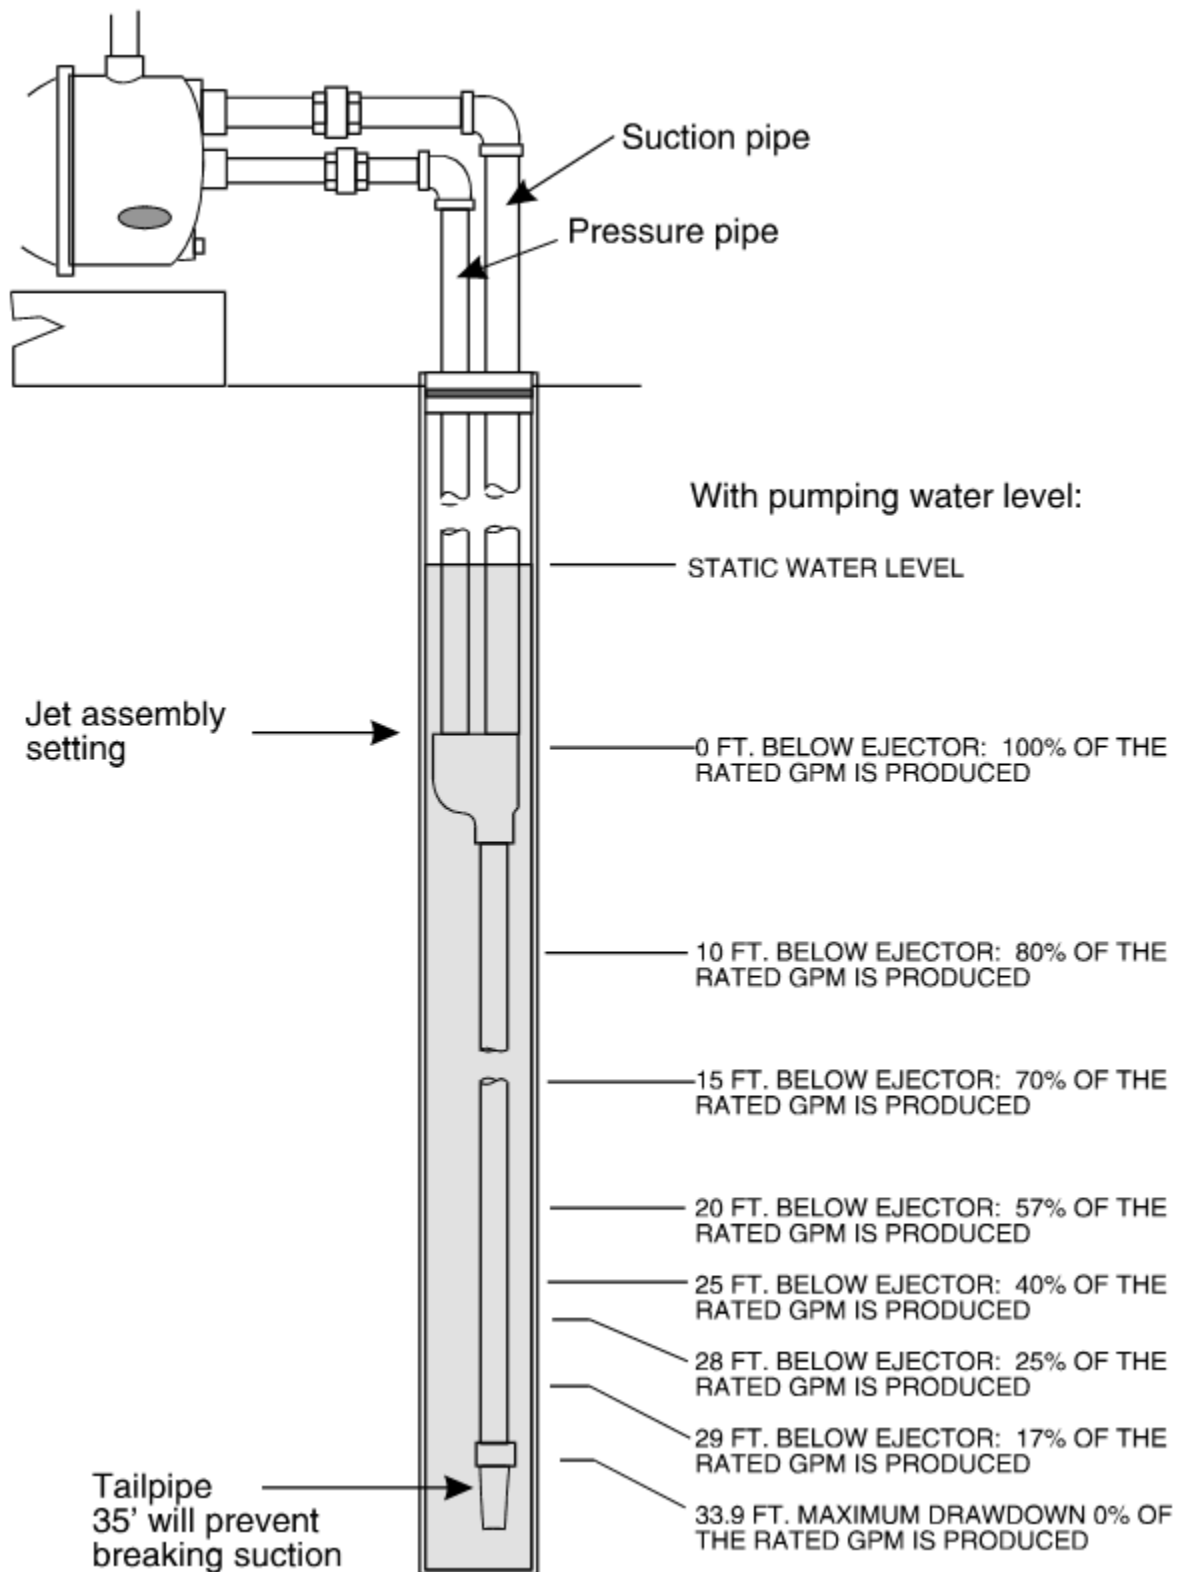

Figure 64. Low yield well tail pipe solution
- Figure 64. “Low yield well tail pipe solution” from Grundfos is used for educational purposes under the basis of fair dealing.